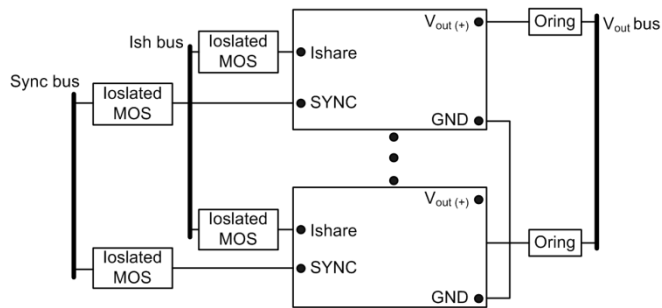

Figure 24: Parallel connection
- When modules are connected in parallel, connect the SYNC pins of all the modules and connect the ISHARE pins. If one of the modules powers off or is faulty, disconnect its SYNC and ISHARE pins from the bus, as shown in Figure 24.